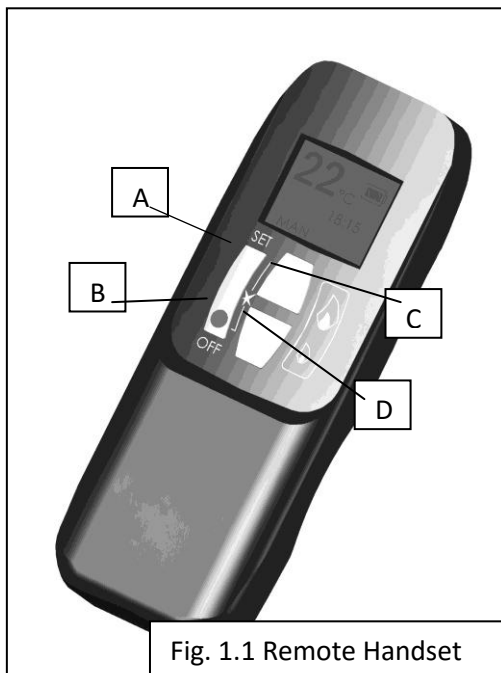
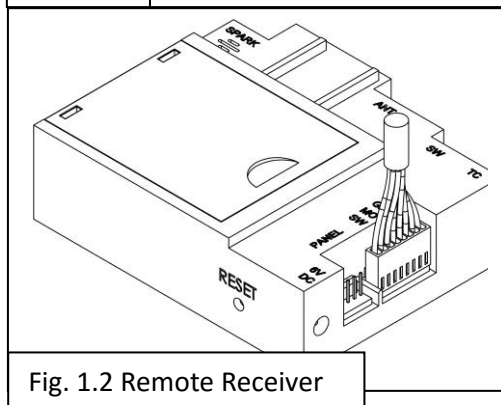
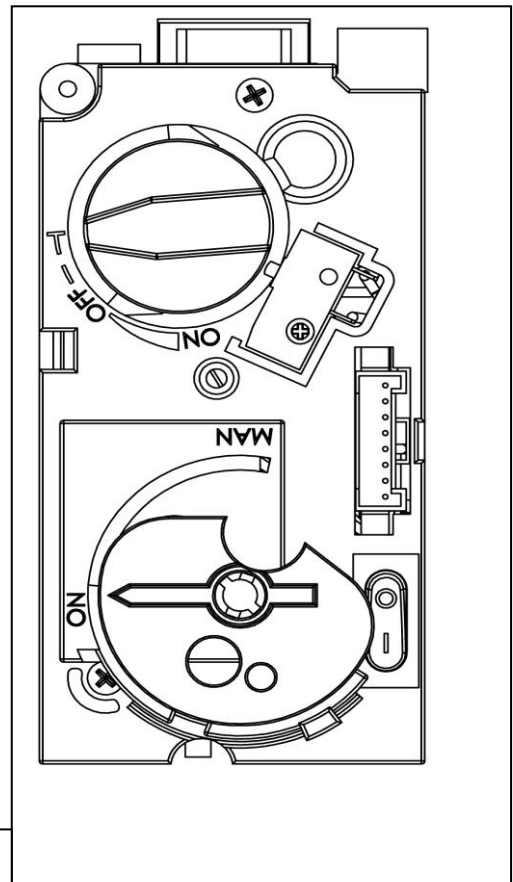

Fig. 1.1 Remote Handset
Fig. 1.2 Remote Receiver
Fig. 1.3 Gas Control
This Nestor Martin Gas Appliance has been constructed with an advanced remote control system. This consists of three main parts; Handset (fig. 1.1), Receiver (fig. 1.2) and Gas Valve with Manual Override (fig. 1.3). The Gas control valve and the Receiver are behind the access door. This is also where the product Data Label is located.
Within the next twenty seconds press the down button (Button D fig 1.1) on the remote handset until you hear an additional long signal confirming the code is set.
To be able to use the Remote control Handset (fig. 1.1), the rocker switch on the Gas Valve, must be turned "ON" (the "1" position) and the manual Dial set to the "On" position.
Press the OFF button (Button B fig. 1.1) on the Handset. This will extinguish all Burners including Pilot.
Note:- Repeated presses of the small flame (Button D fig. 1.1) will turn the main burner OFF, but will leave the Pilot alight.
To increase the flame height; press the large flame button (Button C fig. 1.1).
To decrease the flame height; press the small flame button (Button D fig. 1.1).
Simultaneously press OFF and Small Flame buttons (buttons B & D fig. 1.1) until display changes from Fahrenheit/12 hour clock to Celsius/24 hour clock and vice versa.
- b. Simultaneously pressing the Large Flame Button and Small Flame Button (buttons C & D fig. 1.1)
Press the Large Flame button (button C fig. 1.1) to set the hour.
Press the Small Flame button (button D fig. 1.1) to set the minutes.
Press OFF (button B fig. 1.1) to return to standard operating mode or simply wait and it will return to standard mode after approximately 15 seconds.